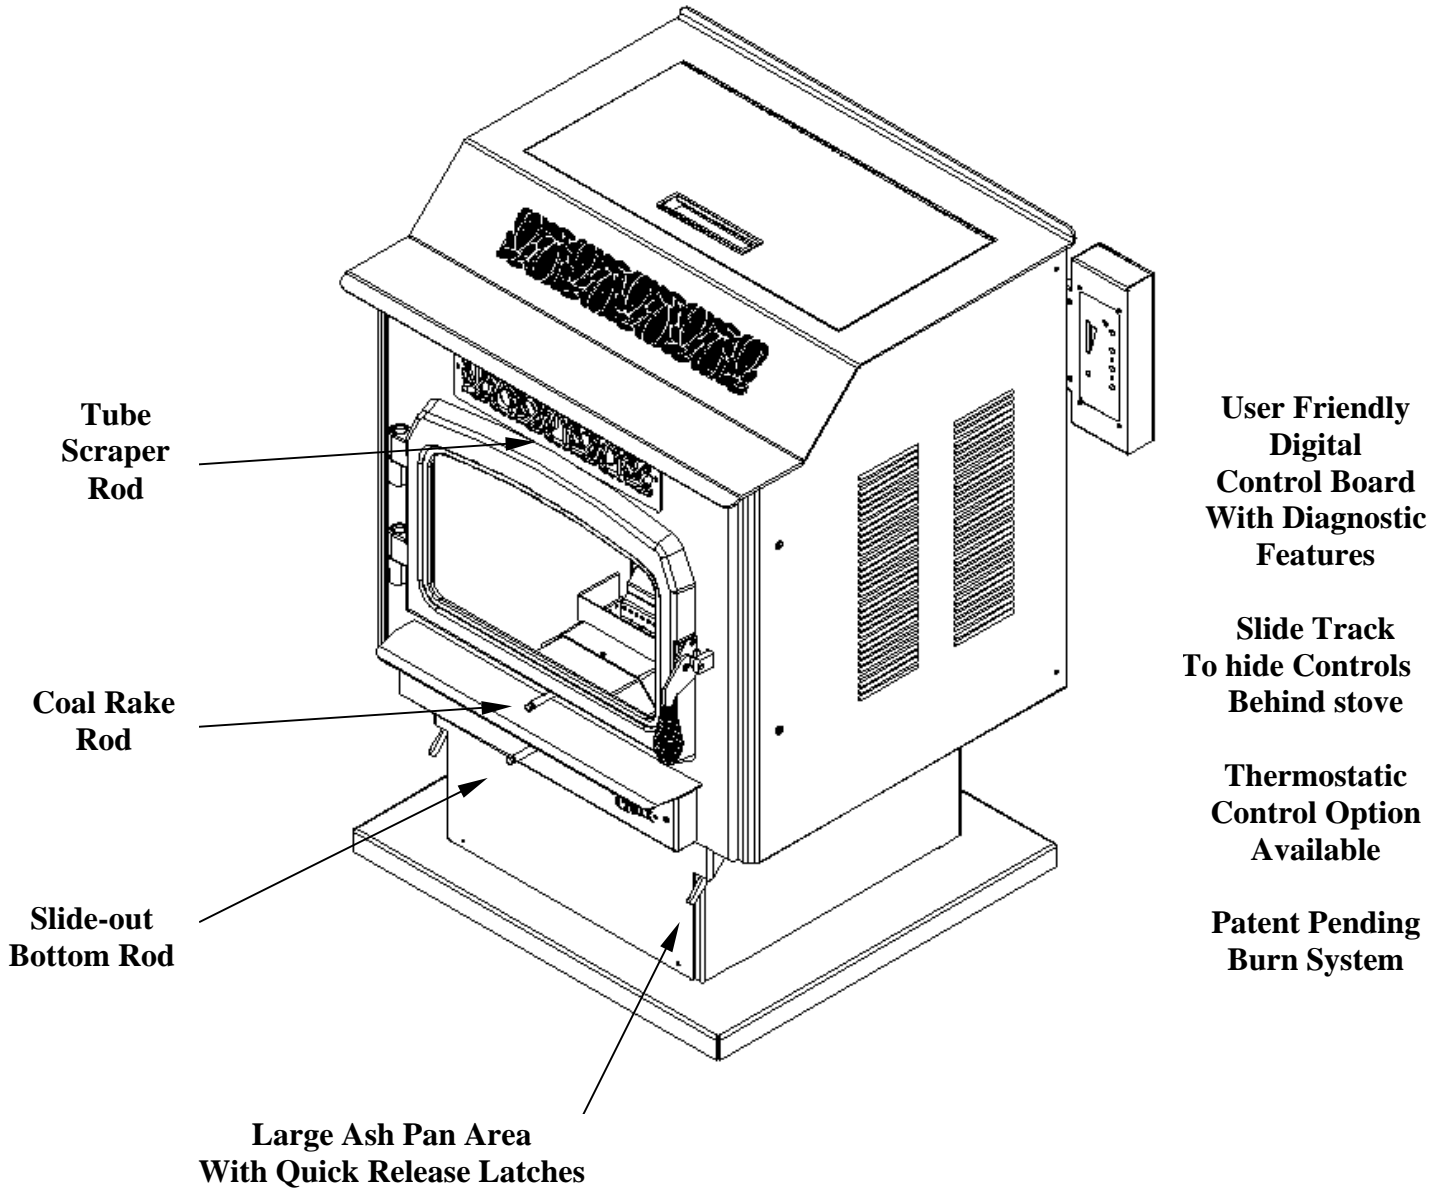

Figure 1
**CAUTION: The Coal Rake must be pulled out and the Slide-Bottom pushed in to operate the stove. (See Figure 1, Stove Layout on page 3)**